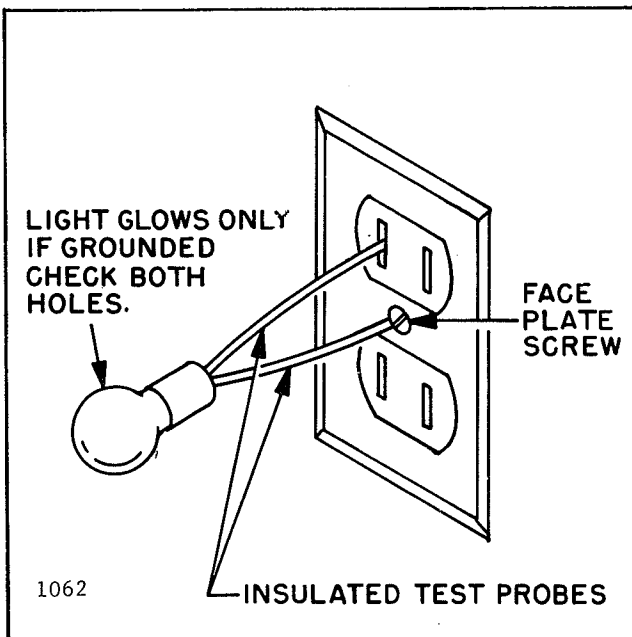

Figure 2. Checking Power Outlet
1. Insert one test probe into one hole of the two hole outlet, then place the second probe on the face plate screw. If the receptacle is grounded the light will glow. Be sure to check both holes. (See Figure 2.)